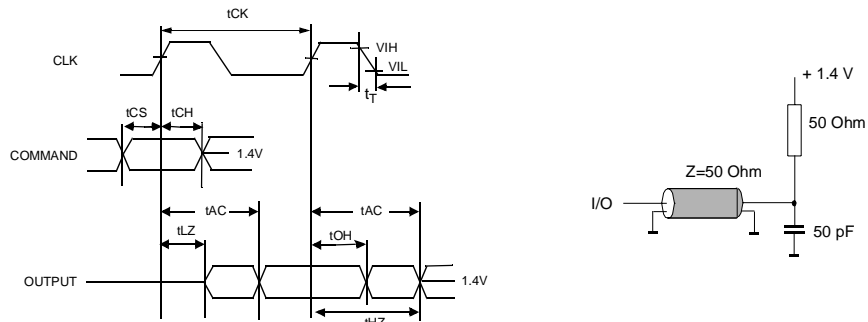

Figure 1.
- AC timing tests have $V_{IL} = 0.8\text{ V}$ and $V_{IH} = 2.0\text{ V}$ with the timing referenced to the 1.4 V crossover point. The transition time is measured between V_{IH} and V_{IL} . All AC measurements assume $t_T = 1\text{ ns}$ with the AC output load circuit shown in Figure 1.